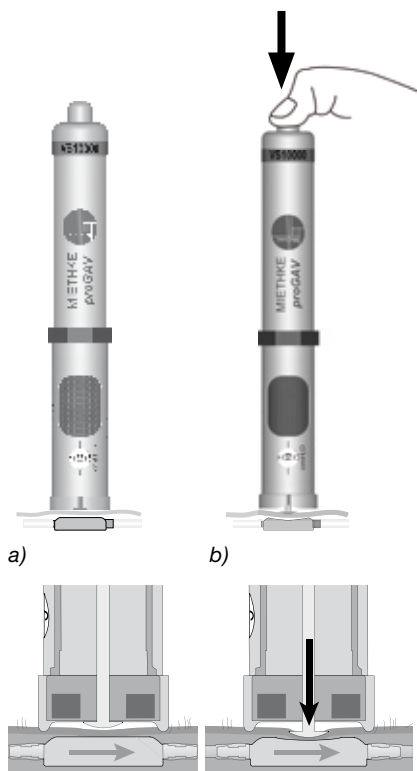

Fig. 17: Adjusting the pressure setting
5. As soon as the proGAV ADJUSTMENT TOOL has been positioned centrally on the valve, the button is pushed onto the valve and the adjustment tip appears. This triggers the mechanical decoupling and the valve setting is adjusted to the required opening pressure setting (fig. 17).